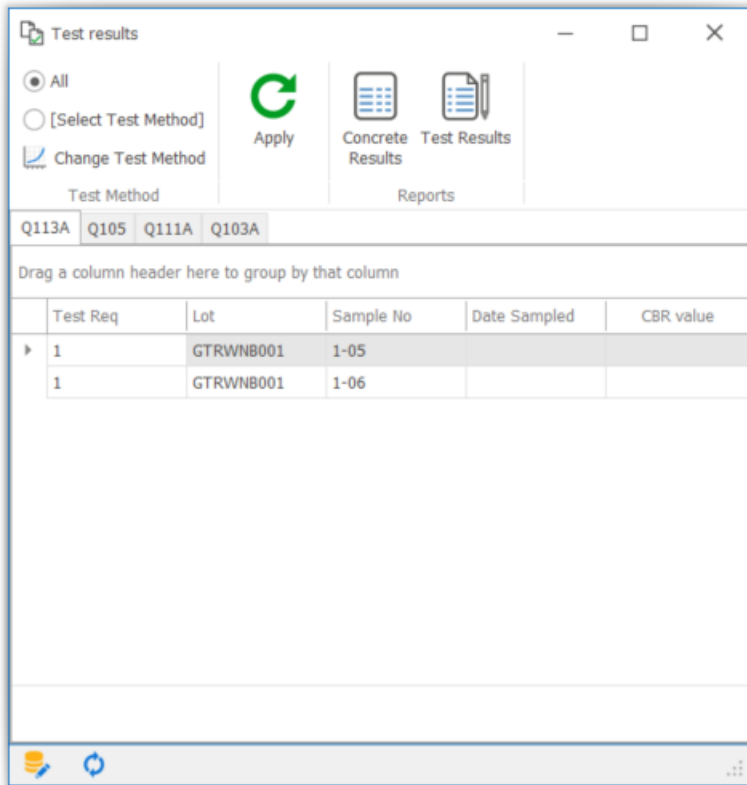

Figure 103 Test Results Dialog
3. The Test Results dialog will open as in Figure 103. Note that there are 4 different tabs. One for each of the test types for this specific test. Each Test Type has the same first 4 columns - Test Req, Date Sampled, Lot and Sample No. Additional columns are added to each Test Method in the Test Method Register.